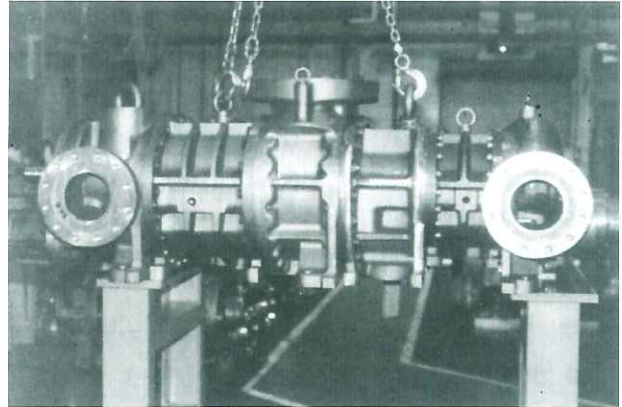

Fig. 22 Lifting the Compressor
1) Eyebolts are provided on the top of the compressor and should always be used when the machine is to be lifted. Adjust the length of the hanging wire or chain carefully to ensure that the compressor is horizontal when lifted (ref. Fig. 22).
2) Remove the 6-8 bolts securing the bearing head (11-1, 11-2) to the rotor casing (1-1, 1-2) and the suction cover (5-1, 5-2) before lowering the compressor onto the work table; several of the bolts are only accessible when the machine is raised. As the compressor is unstable when suspended, position a forklift under the machine when doing this work or support the compressor on a stand (ref. Fig. 22).